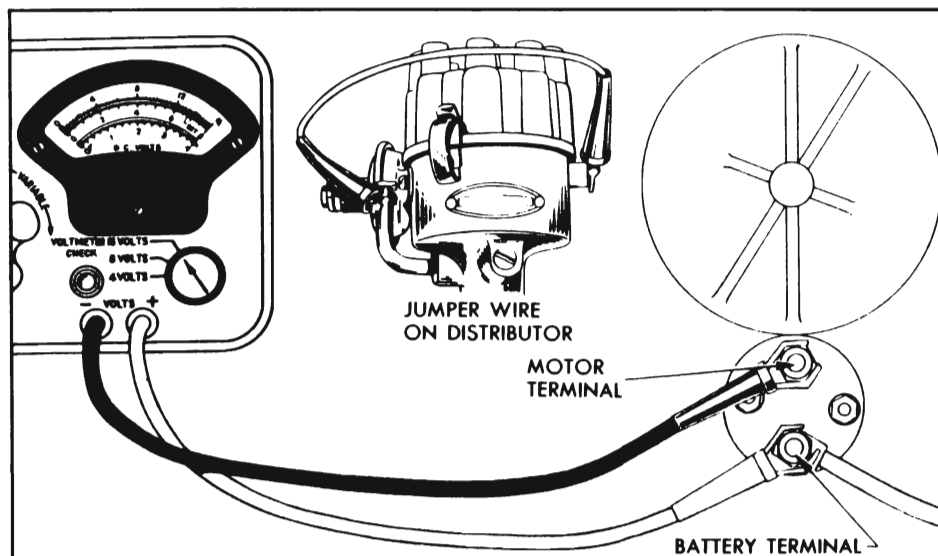

Figure 10-33—Solenoid Switch Contact Test Connections
6. With voltmeter switch turned to any scale above 12 volts, connect voltmeter negative (–) lead to the motor terminal of solenoid switch, and connect positive (+) lead to battery terminal of switch. See figure 10-33.